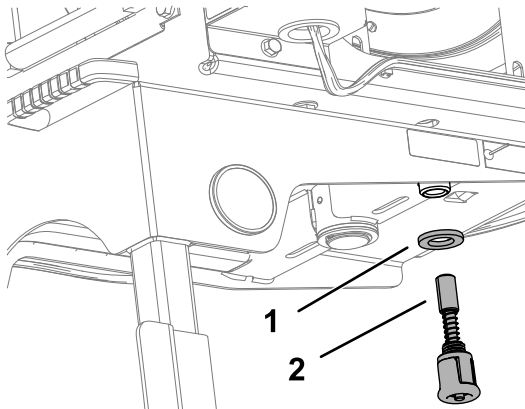

Figure 23
6. Install the washer and spring pin to the underside of the hose-reel frame (Figure 23).